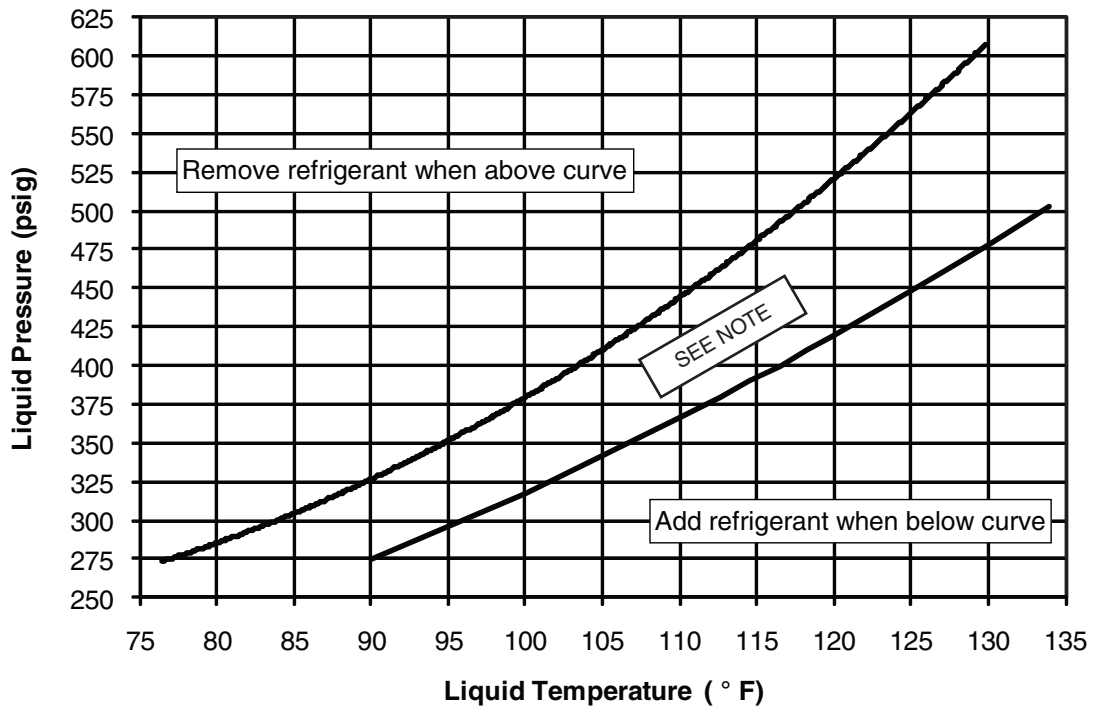

Figure 8. Charging Chart for 2 Ton Units
- Charging charts are valid for a variety of indoor, return air conditions and are most influenced by the outdoor ambient temperature, outdoor fan operation and the unit operating voltage. Before using these charts, ensure the unit is in a stable operating mode. As shown in the charging charts (Figures 8 - 13, page 16 - 18), the ideal system sub-cooling can vary over the range of operation. Reference the charts to determine the ideal amount of sub-cooling for a given liquid pressure. Units charged to other values will not perform at the rated unit efficiency (EER) or rated Coefficient of Performance (COP) in heating mode.